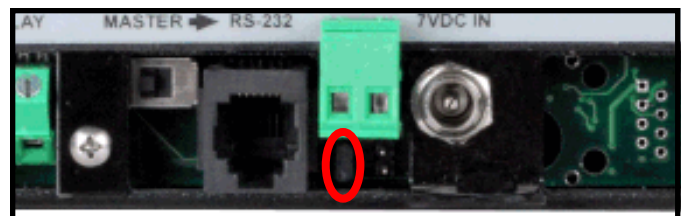

Figure 15. Daisy-chain terminal jumper
- III. The first and last Smart Clocks on the daisy chain must have the jumper placed over the left set of terminals located below the RS-485 terminal block (see Figure 15). All Clocks in between must have the jumper removed.